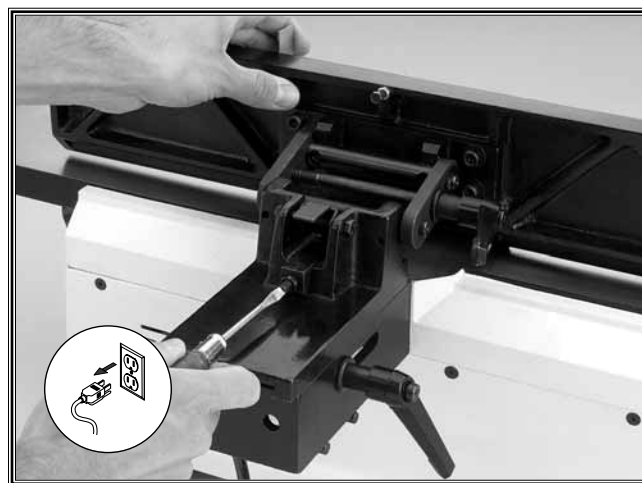

Figure 22. Adjusting the 90° stop slide.
4. Using a flat-head screwdriver, adjust the setscrew on the 90° stop slide until the peg makes contact with the back of the fence (**Figure 22**).